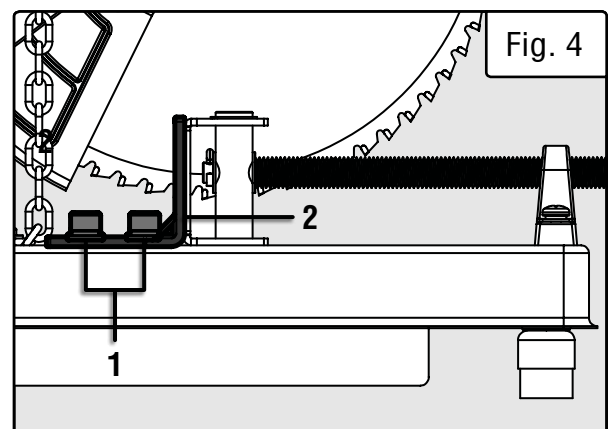

Fig. 4
1. Loosen the two M10 bolts (Fig. 4 - 1) securing the fence to the base.
2. Turn the fence (Fig. 4 - 2) to the desired angle.
1. Loosen and remove the two M10 bolts (Fig. 4 - 1) securing the fence (Fig. 4 - 2) to the base along with the washers on those bolts.
2. Move the fence (Fig. 4 - 2) to the new desired location. There are two different locations that the fence can be fastened in, choose the position that is best for your work piece size.
3. Replace the two M10 bolts (Fig. 4 - 1) along with their washers, making sure that the washers are in the same order as originally assembled.